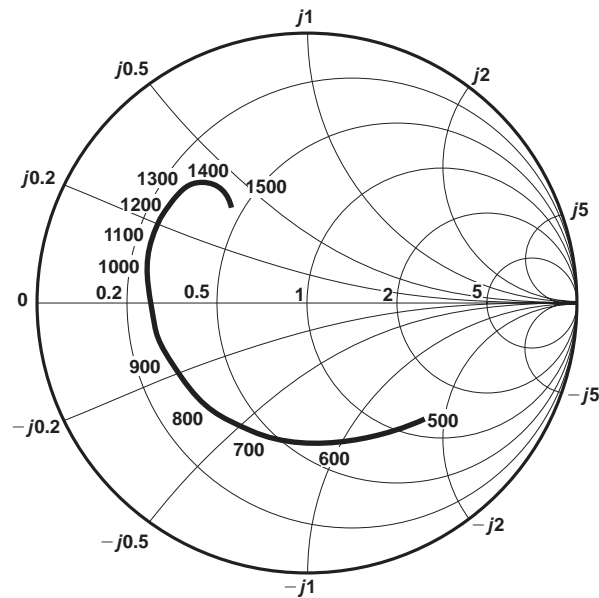

Fig. 4 Typical input impedance. Test conditions: supply voltage = $-5.2V$, ambient temperature = $25^{\circ}C$, frequencies in MHz, Impedances normalised to 50Ω
4. The input impedance of the SP8610/11 is a function of frequency, see Fig. 4.